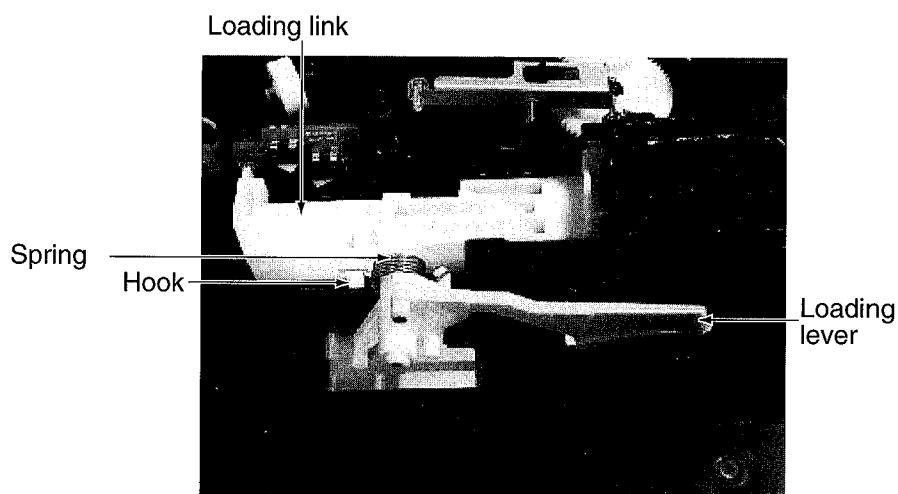

Fig 24
- 1) According to Figure 24 ,mount the spring on the loading lever.
- 2) Insert it in the loading link in the direction shown in Figure 24.Here hook the spring on the claw of the loading link.(This operation shall carefully be done so that the lever is not lifted,for example,by pinching the spring between the link the lever.)